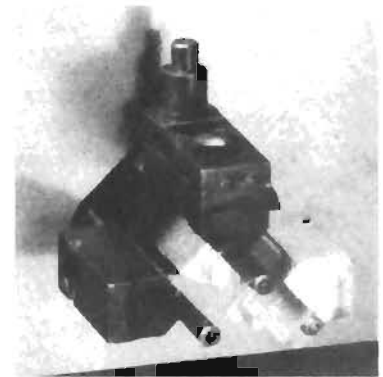
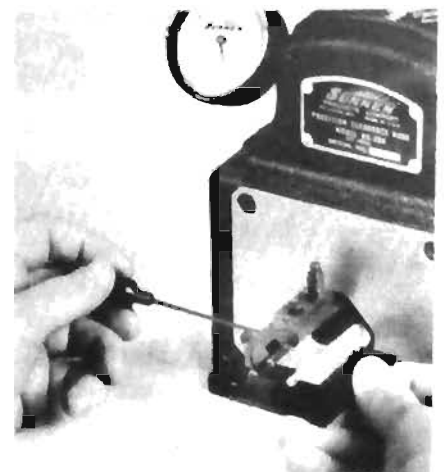

Fig. 18
Fig. 19
2. Attach silver colored gaging point to silver colored adjustable (right hand) gaging finger (Fig. 18); captive screw in point goes in threaded hole in finger. Attach black gaging point to indicating (left hand) gaging finger in like manner. Place point aligning gage against silver colored gaging point as shown in Figure 19. Loosen attaching screw in black gaging point slightly and shift point until both gaging points contact point aligning gage. Tighten attaching screw. Attach centralizer point assembly to gage centralizer finger-- captive screw in point goes in threaded hole in centralizer finger.